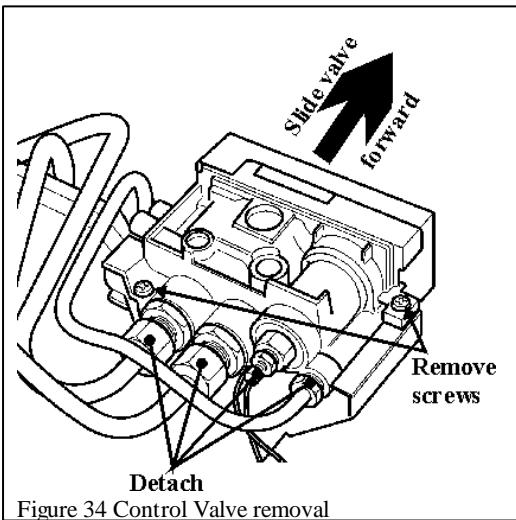

Figure 34 Control Valve removal
- Remove the two mounting screws on the underside of the gas valve. See figure 34.